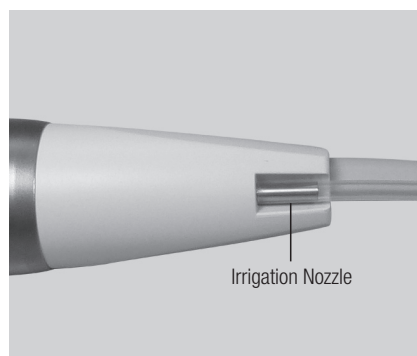

Fig. 11
- 4) Insert the other Irrigation Tube tip into the handpiece Irrigation Nozzle. (Fig. 11)